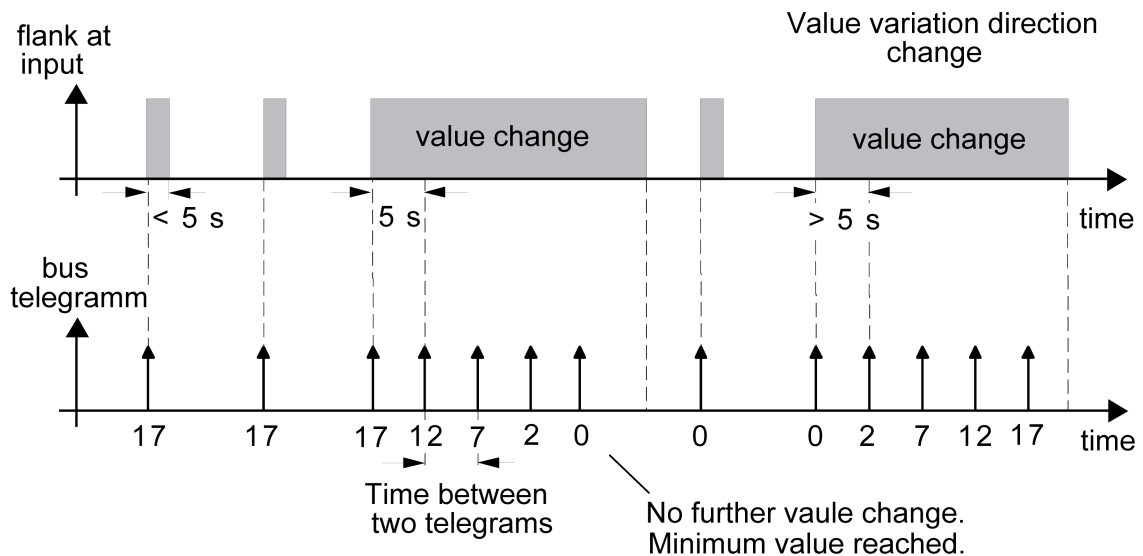

Figure 56: Example to change the value for dimming value transmitter
- Example of value adjustment (figure 56):